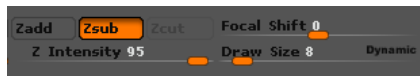

Figure 3-59 Settings for the **Standard** brush for creating pattern
1. Make sure the **Standard** brush is chosen. Next, choose the **Zsub** button from the top shelf. Set the value of **Z Intensity** slider to **95** and the **Draw Size** slider to **8**, as shown in Figure 3-59.